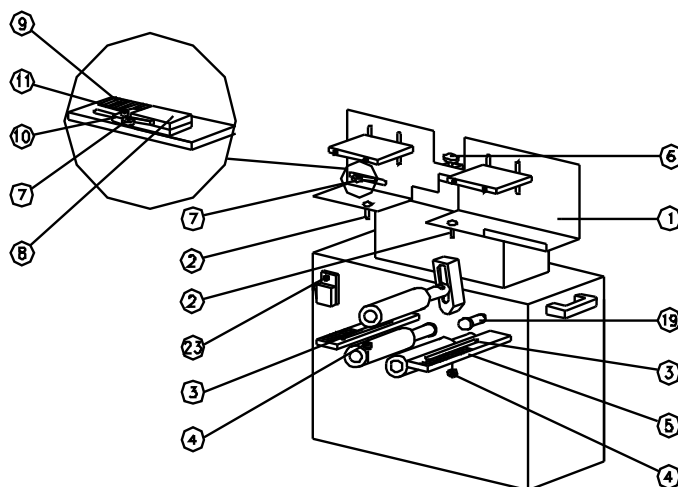

fig. 15
The machine can put labels on square bottles. It is possible with the suitable options. The machine has two parts (n° 5 in fig. 15 and 16) to support the system that labels the square bottles.
- press manually the device 19 (fig. 15); the machine makes one cycle and then stops with roller 14 in the higher position;
- Regulate the switch 8 loosening the screw 9, so that the roller 7 (fig.15) is completely pressed by the bottle when it is in the group (like in the picture). Fix again the screw 9.
- Take away the screw 9 that fixes the part 10 of the switch 8 (fig.15) and position the part 10 and the switch 8 on the upper left side of the machine, using the screw 9.